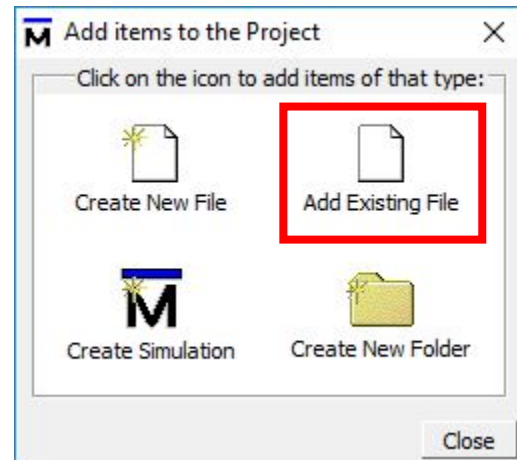

Figure 2.3 Add items to the Project
- 3) After the second step, click “ADD Existing File” as Figure 2.3.